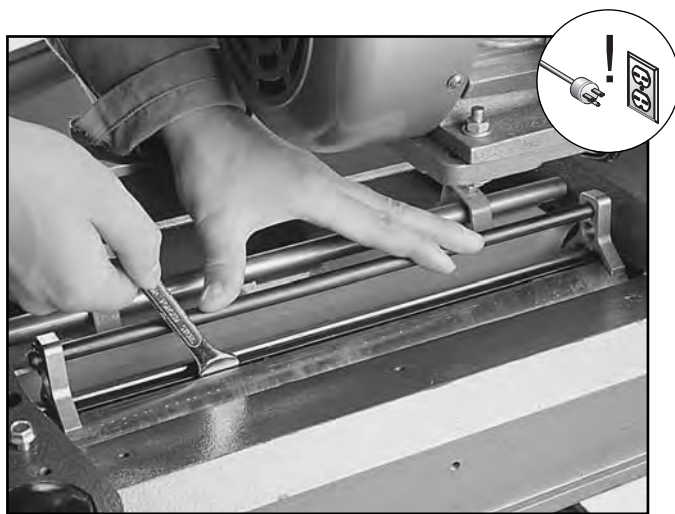

Figure 34. Tightening gib bolts in cutterhead.
6. While holding the position of the knife setting jig, tighten the gib bolts down again in the cutterhead (**Figure 34**). Tighten the bolts evenly from the middle, working toward the ends.